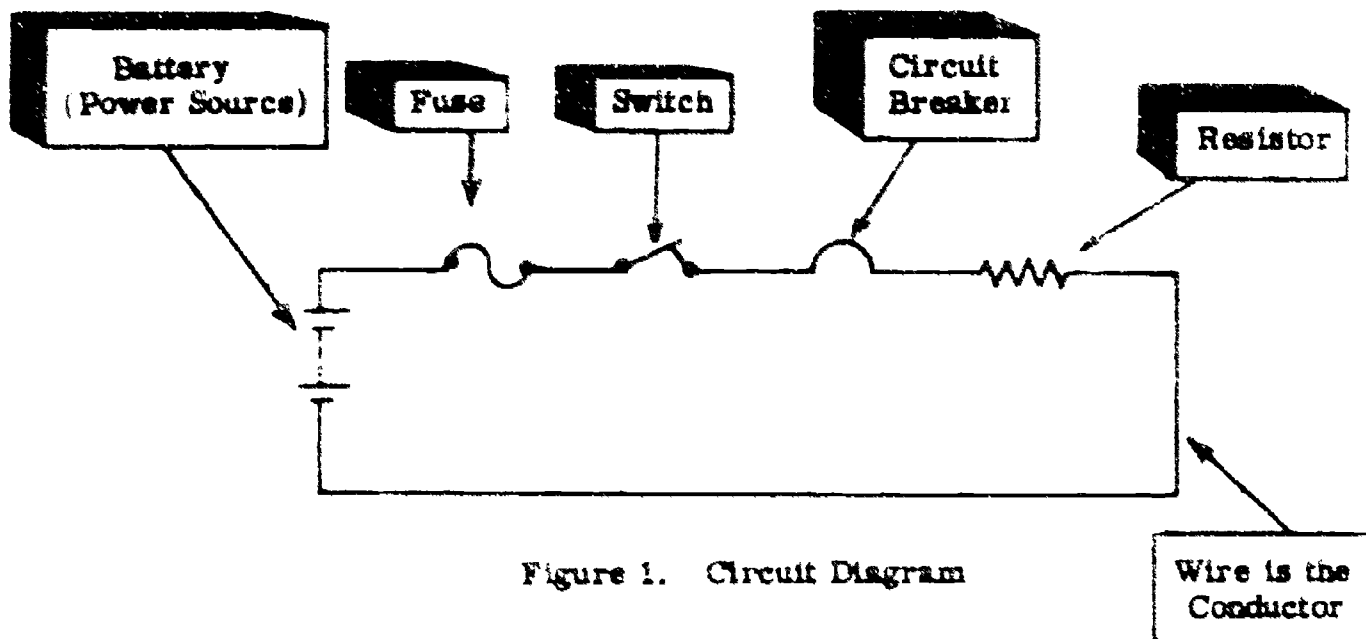

Figure 1. Circuit Diagram
2. A Basic Electrical Circuit: The three basic parts of an operational circuit consist of a power source, conductor, and a unit of resistance which form a closed (complete) path for current flow. (See Fig. 1.)
Carefully study Figure 1 and the four principles, then turn the page and answer the following questions.